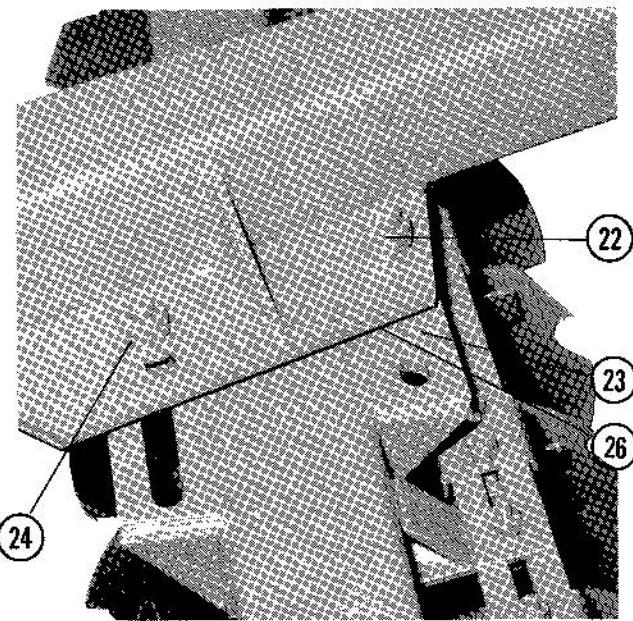

Figure 3
**3. Offsetting Rear Gang Bar:** (Refer to Figure 3) for ordinary conditions bolt(22) should be in the centre of lateral plate(23). When using disc as a double wide unit the rear gang bar is adjusted to maximum width to fill furrow. Remove two bolts(22), loosen bolt where slots are(24), adjust laterally then retighten all bolts.
**B. Side to Side Levelling:** (Refer to Figure 3) In general, adequate levelling from side to side may be obtained by placing leveling washers(26) between angling plate on frame and gang bar. Leveling washers are always used on narrow side(N) of disc only.